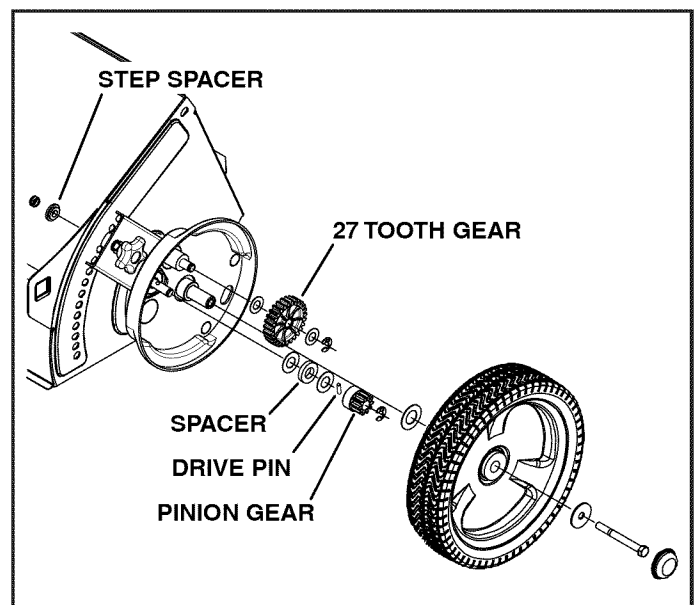

FIGURE 22
- Every year, remove the wheels to clean and lubricate the gears, wheels and axles. After cleaning, lubricate the axles and the teeth on the gears and wheels with a light coat of grease. To remove a wheel, pop off the hub cap to expose the head of the bolt. Remove the nut and step spacer from the bolt and then remove the wheel along with the bolt and washers. When re-assembling, be sure the step spacer is properly seated in the hole in the sweeper housing. Refer to "Gear and Drive Pin Service" and figure 22 on page 12.
- To remove the smaller pinion gear, remove the retaining ring and then remove the gear, the drive pin (located in the brush shaft), the washers and the spacer. See figure 22.